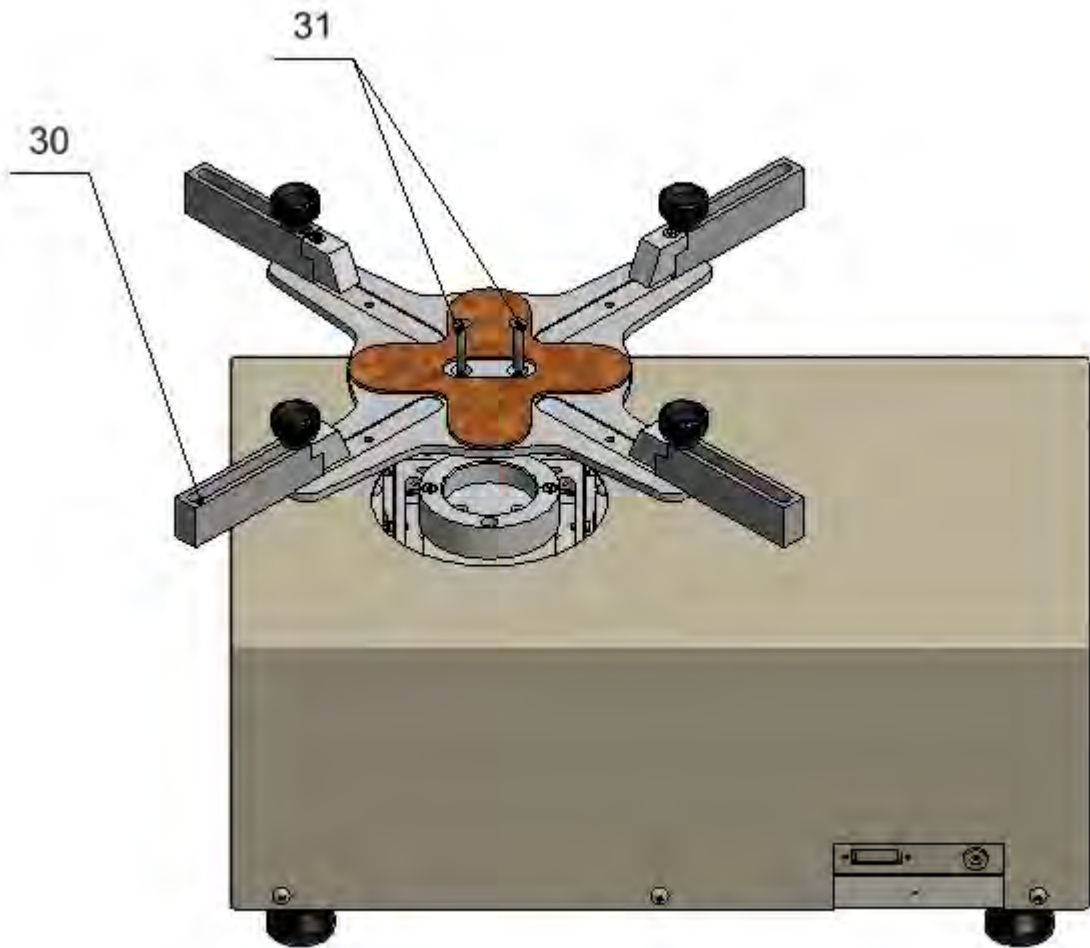

Fig.13
- Use two M5 screws (31) to fix centring pan assembly (30). (Fig.13)